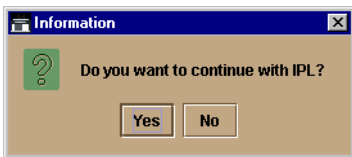

Figure 3-18: Information Dialog Box
3. At the navigation control panel, select IPL from the Maintenance menu. The Information dialog box (Figure 3-18) displays.